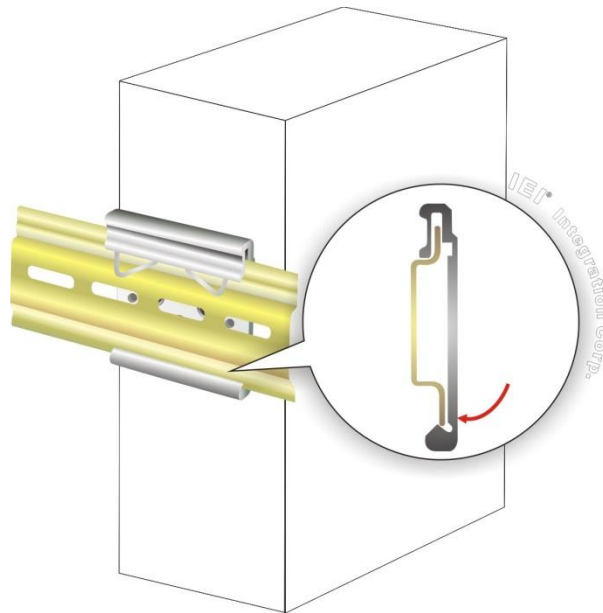

Figure 3-12: Mounting the System
Step 3: Push the system toward the DIN rail until the mounting bracket clips into place firmly (**Figure 3-12**)